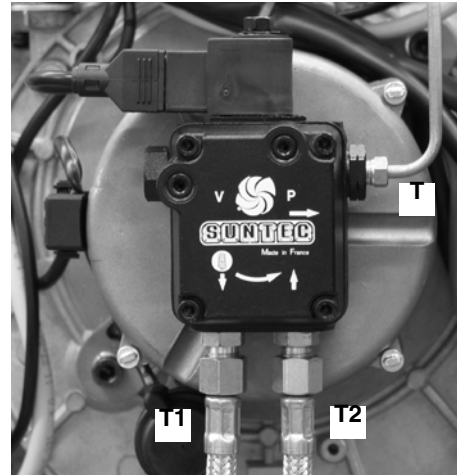

Fig. 21
- Slacken the light oil pipes T1 and T2 from the pump (Fig. 21).